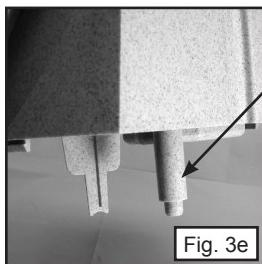

Fig. 3e
- 3) Line up the filter housing unit over the pump and then the bowl. You will want to line up the intake tube to fit directly into the pump. Once in place, gently push down, locking the housing into place. (Fig. 3e & 3f)